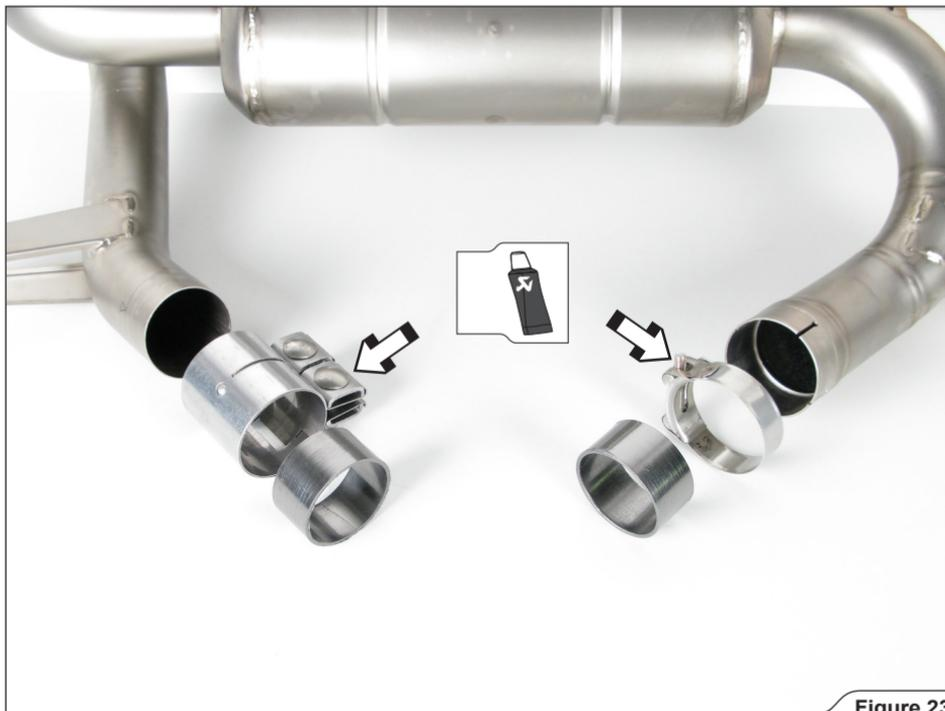

Figure 23
9. **For Slip-On:** assemble the clamps and graphite gaskets onto the inlets of the muffler, as shown (Figure 23).